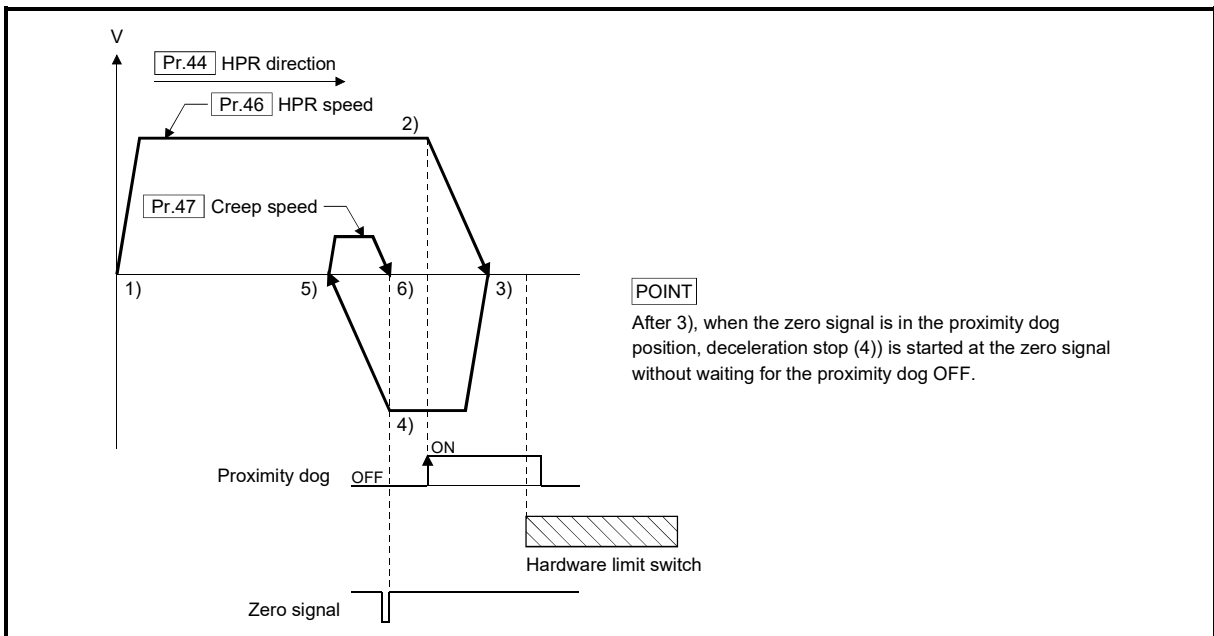

Fig. 8.11 Scale origin signal detection method machine HPR
- (7) Do not use the scale origin signal detection method HPR for the machine with the backlash.
- (8) When using the direct drive motor, make it passed the Z-phase once before reaching 3) of Fig. 8.11.